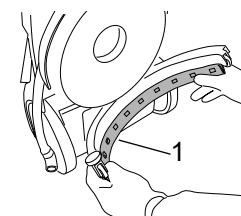

Fig.43
- Pull out the blade, so as to free the entire assembly (fig. 43, ref. 1).